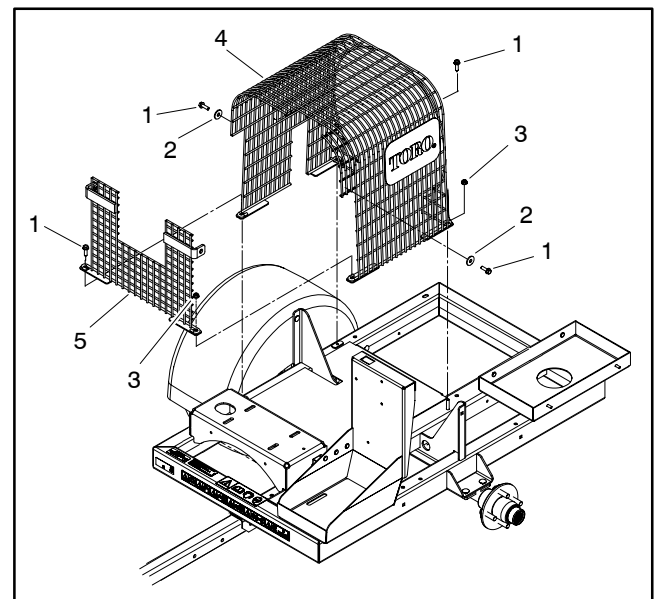

Figure 8
6. Remove top grill and side grill from machine (Fig. 8).
8. Remove four (4) flange head screws and flange nuts that secure engine to machine.
4. Install four (4) flange head screws up through the frame and engine mounting holes. Install flange nuts on screws. Do not fully tighten nuts at this time.
8. Install top grill and side grill (Fig. 8).